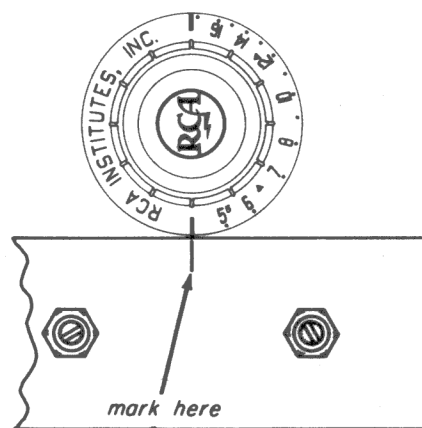

Fig. 33-10
Step 1. Turn the tuning capacitor to its fully closed position, and mount the tuning knob as shown in Fig. 33-10. Then make a mark on the chassis as shown in the figure to serve as a dial pointer.